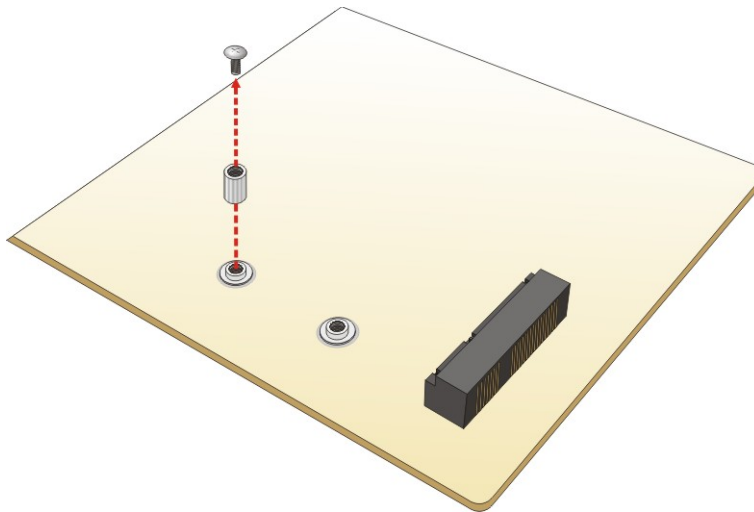

Figure 4-5: Removing the Retention Screw and the Standoff
- Step 2:** Remove the retention screw. Unscrew and remove the standoff secured on the motherboard. See **Figure 4-5**.